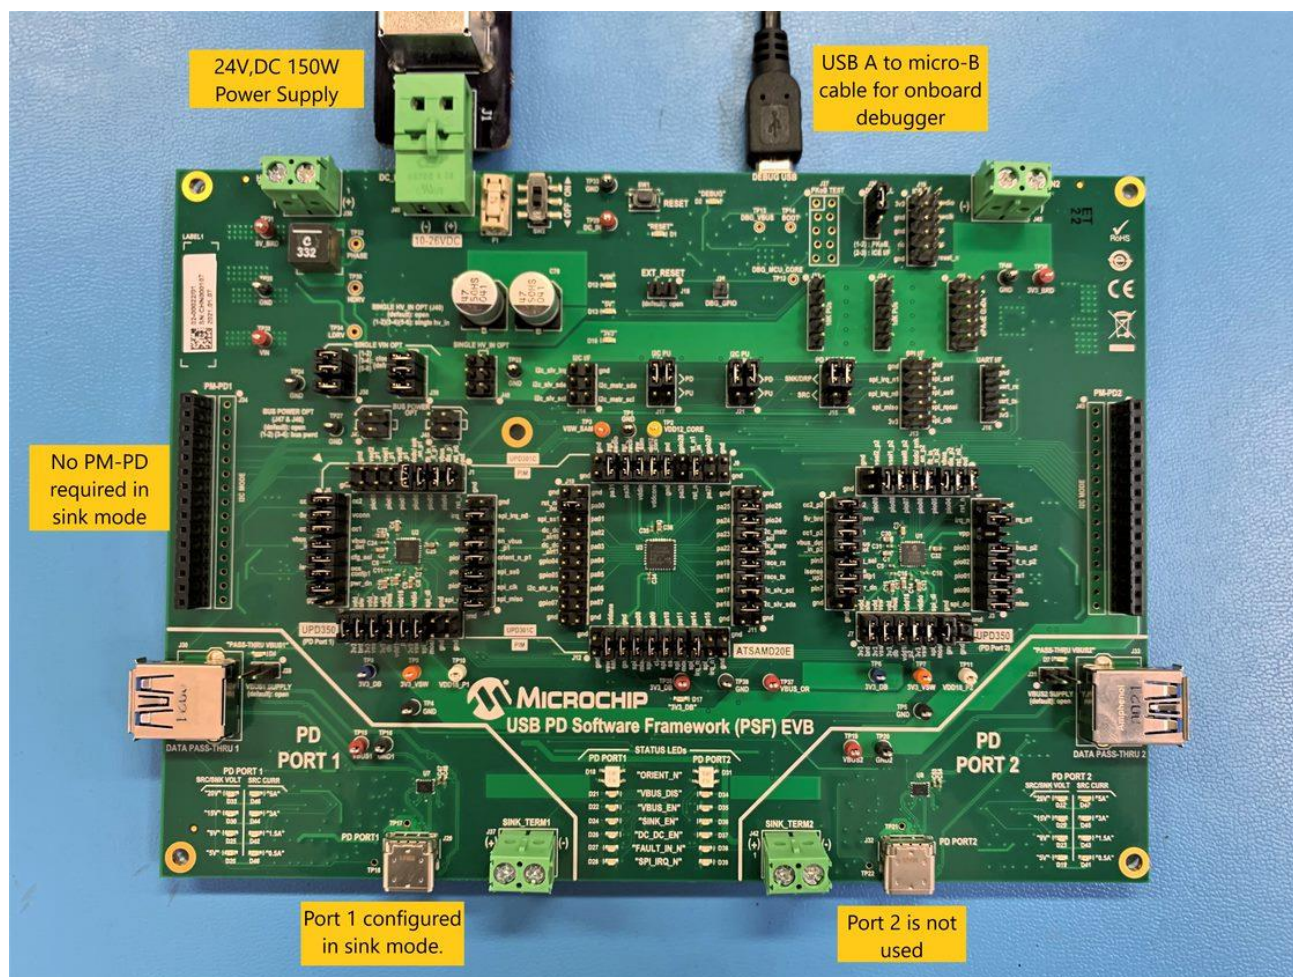

Figure 5.4 EVB-PSF Full Setup
5. The whole connection is shown in Figure 5.4,